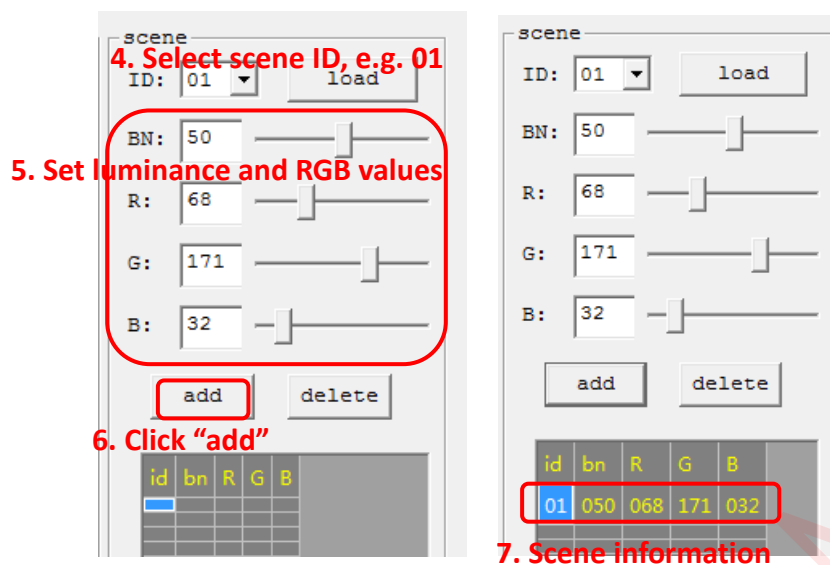

Figure 25 Add scene mode 01 for Light node 001 (device ID: 0013)
First click the “Online Status” button (as shown in mark 1 of Figure 25).
- 1) Double click certain light node’s serial number (e.g. 001 as shown in mark 2 of Figure 25); the node’s device address (ID) will be available above the “Get Group” button, as shown in mark 3 of Figure 25. *Note: If the addr shows “ffff”, the
- 2) Select scene ID in the drop-down menu of "ID", e.g. 01 as shown in mark 4 of Figure 25.
- 3) Set brightness and R/G/B values by inputting values into corresponding "BN", "R", "G" and "B" boxes or sliding corresponding buttons, as shown in mark 5 of Figure 25.
- 4) Click the "add" button (as shown in mark 6 of Figure 25) on the scene window. The indicating LEDs of the light node will blink slowly for three times. Then the scene mode 01 with specified brightness and RGB values is added for light node 001.
- 5) All scene information will be read by APP and updated at the bottom of scene window, as shown in mark 7 of Figure 25. "id" indicates scene ID; "bn"/"R"/"G"/"B" indicate brightness and RGB values, respectively.